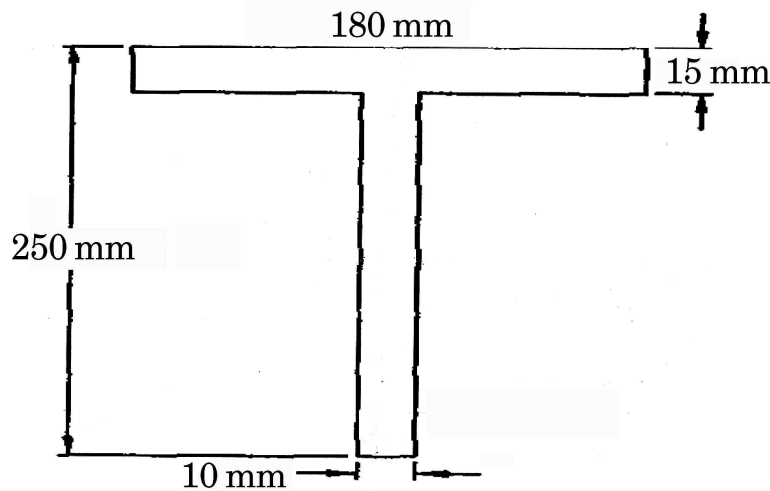

Fig. 9
- (b) Fig. 9 T shows a T-section column of mild steel 3.50 m long, with both ends fixed. Find the safe axial load on the column. Take  $f_c = 385 \text{ N/mm}^2$  and  $\alpha = 1/7500$  and a factor of safety of 3. [6]